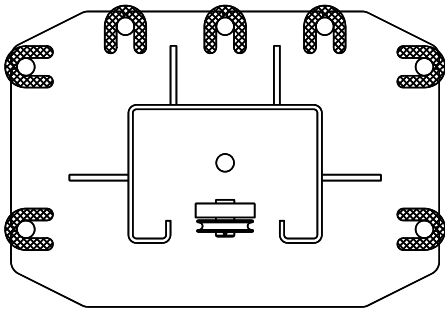

Fig 2 – Column Shimming
- 8) Shim both columns to plumb using the shims provided as shown in **Fig 2**. DO NOT shim more than 1/2" at any given point. Use a level no less than 24" in length to plumb columns.
- 13) Check idler column shimming. Use additional shims (*see Fig. 2*) to remove any gaps that may have been created while installing overhead beam. Tighten anchor bolts and re-check column for plumb. Torque to 150 foot-pounds.